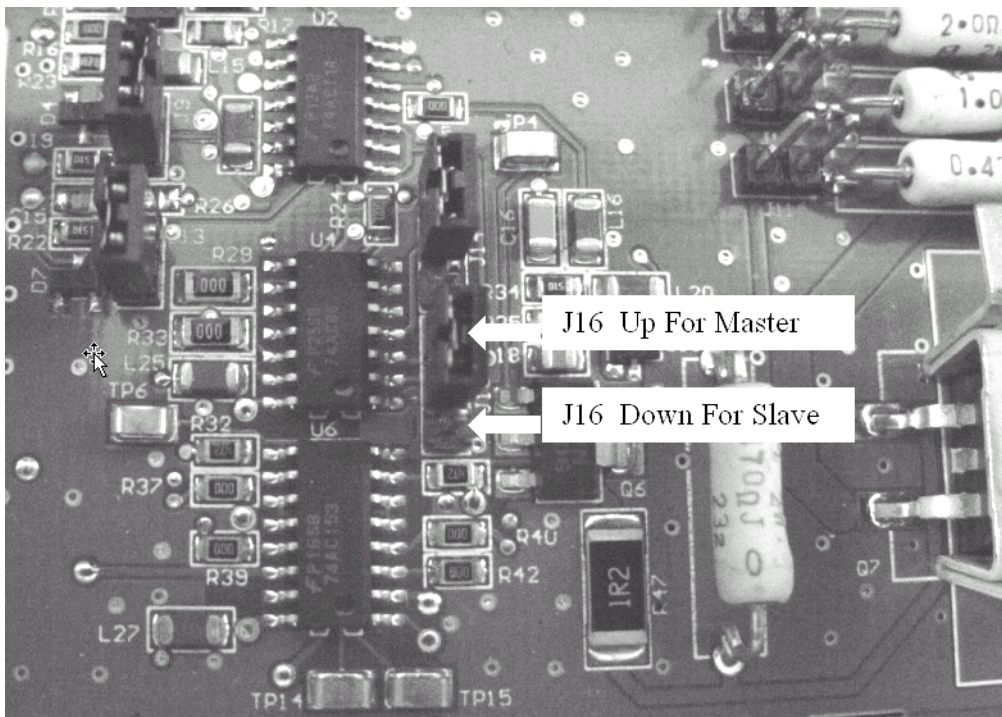

Figure 34: Jumper J16 Position
3. Move the J16 shunt from the up position (pins 1 and 2) to the down position (pins 2 and 3). See Figure 34 below.